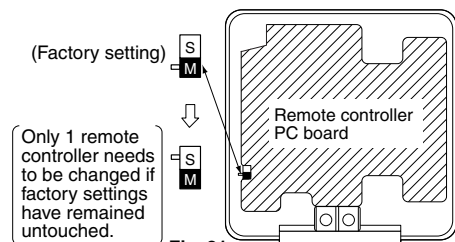

Fig. 31
- (2) Turn the MAIN/SUB changeover switch on one of the 2 remote controllers PC boards to “S”. (Leave the switch of the other remote controllers set to “M”.) (Refer to Fig. 31)